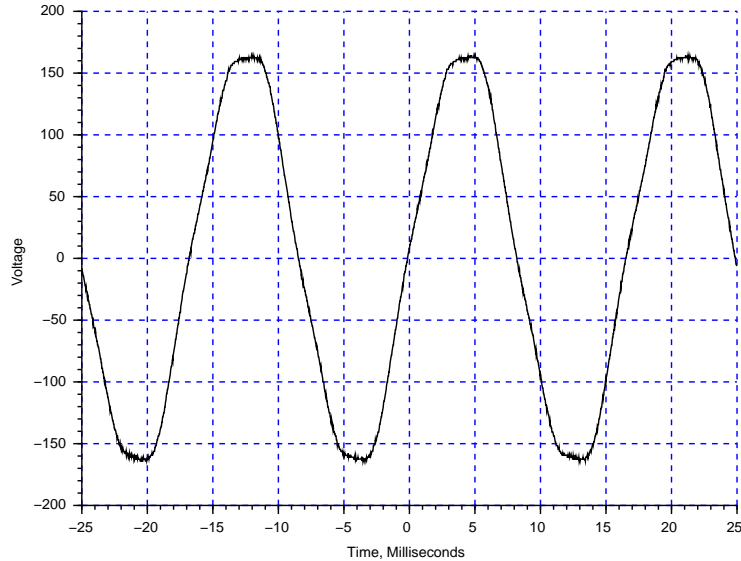
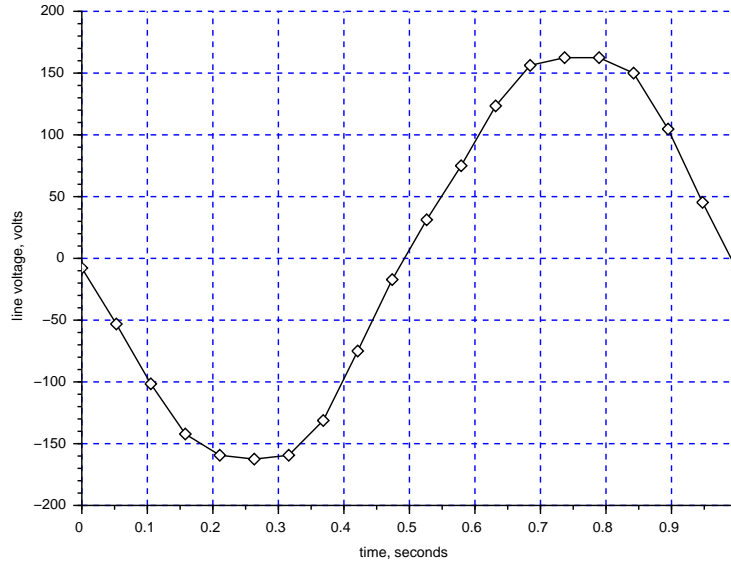

Figure 9: Example power line voltage.
Figure 12: Example power line signal, sub-sampled.
Wrong. Figure 9 on page 12 shows a snapshot that I collected of the line voltage at my house. It's probably typical of the power that you'll see in North America: it's nominally
For instance, if we choose to sample the 60Hz waveform in Figure 9 on page 12 at 19Hz, then we can find that  $M = 3$ ,  $P = 3$ , and  $N = 19$ . Thus, we should be able to build up a picture of the 60Hz power line voltage in 19 samples, or just under one second. The correct order of the  $k^{\text{th}}$  sample in this sample set will be
Figure 12 on page 15 shows the waveform in Figure 9 on page 12 after it's been sampled at 19Hz and reordered according to (9). The resulting waveform repeats at slightly less than 1Hz instead of 60, but it replicates the original waveform as faithfully as sampling it at 1140Hz ( $19 \cdot 60\text{Hz}$ ) would have10.